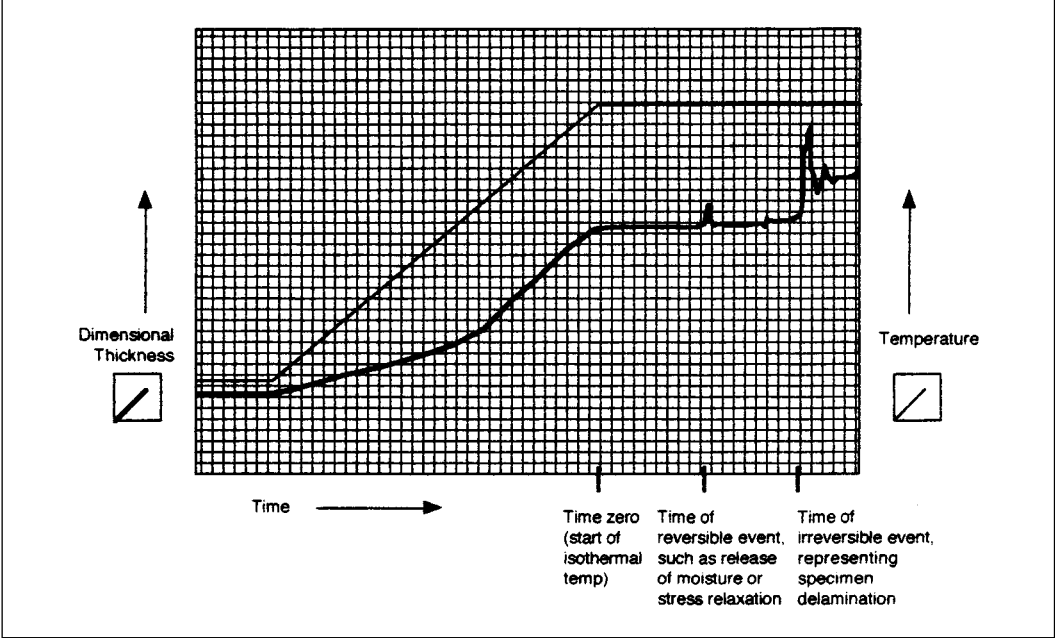

Figure 1
5.3 Evaluation The time to delamination is determined as the time from the onset of the isotherm to failure. Failure is any event or deviation of the data plot where the thickness is shown to have irreversibly changed. The scan in Figure 1 is typical of an epoxy material at 260°C [500°F] isothermal temperature. On occasion, some materials will delaminate before